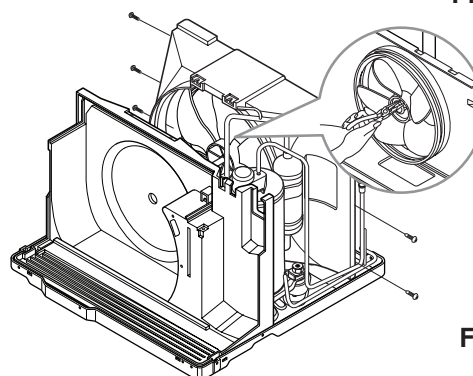

Figure 8
6. Remove the fan. (See Figure 8)